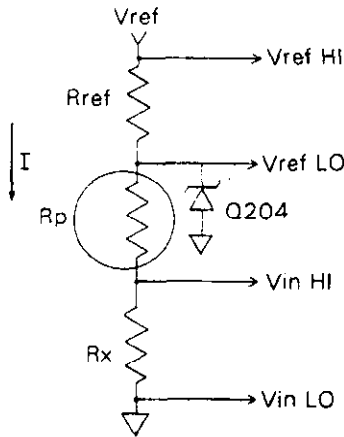

FIGURE 4-3
C. Resistance Signal Conditioning is accomplished ratiometrically. That is, a precision reference resistor and Rx are put in series with a 2.5 volt reference. Therefore, the current developed in the two resistors is the same. Taking the ratio of the voltage drop across Rx to the drop across Rreference correctly calculates ohms. The value of the voltage reference is irrelevant, as it only serves to apply a source of current to the resistors (Rx and Rreference). The preceding theory is illustrated mathematically in the following equations. Refer to Figure 4-3.